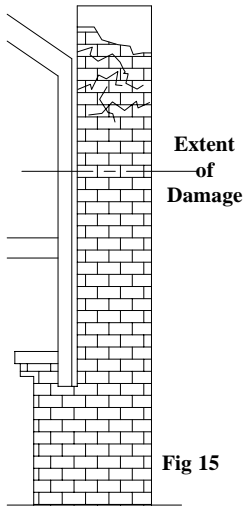

Fig 15
2. **Level Masonry:** Remove the damaged masonry, and level off the top, as shown in Figs 15 and 16, Do any required additional repairs to the chimney at this time. It is imperative that the remaining masonry be structurally sound, and in accordance with local codes, as well as sound building practice.